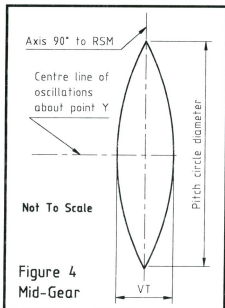
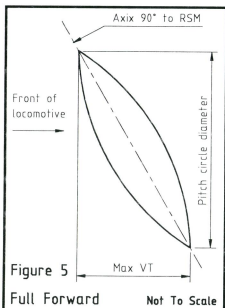

Figure 4
Figure 5
and $F^1M^1R^1$ to select forward or full reverse. (Notching-up selects a position somewhere in between). When in motion, radius rod (RR) is driven by the eccentric pin (EP) which follows the pitch circle created by the return crank. RR in turn drives the anchor link (AL), which is pivoted at M, to create the arc UXD as shown in Figure 3. Valve travel is derived from the valve rod (VR) positioned on the radius rod at Y which converts the oscillating movement into reciprocating movement. The distance of Y from X on the radius rod determines the lap and lead. When in mid-gear, RSM must be parallel to the valve spindle (VS) and as with Walschaerts valve gear, the valve travel is equivalent to lap and lead. The movement of point Y in mid-gear is approximately oval shaped (Figure 4) and when in full gear the oval shaped movement of point Y becomes elongated to impart the required valve travel. Figures 5 and 6 show the